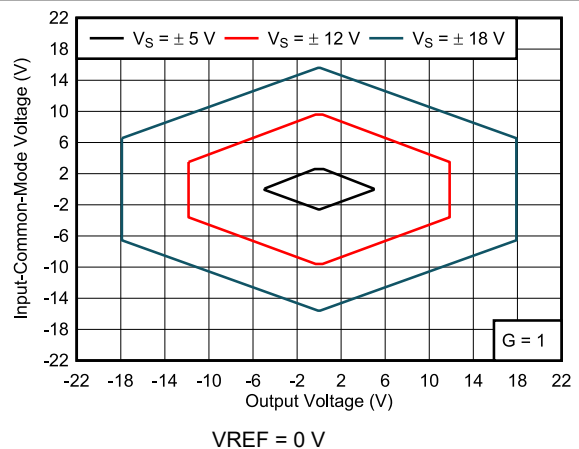

Figure 7-12. Boundary Plot - Input Common-Mode Voltage vs Output Voltage
- (1) Total offset, referred-to-input (RTI): $V_{OS} = (V_{OSI}) + (V_{OSO} / G)$.
- (2) Specified by characterization. Not tested in production.
- (3) Offset drifts are uncorrelated. Input-referred offset drift is calculated using: $\Delta V_{OS(RTI)} = \sqrt{[\Delta V_{OSI}]^2 + (\Delta V_{OSO} / G)^2}$.
- (4) Input voltage range of the input stage. The input range depends on the common-mode voltage, differential voltage, gain, and reference voltage; see Figure 7-12.
- (5) The values specified for $G > 1$ do not include the effects of the external gain resistor, R_G .